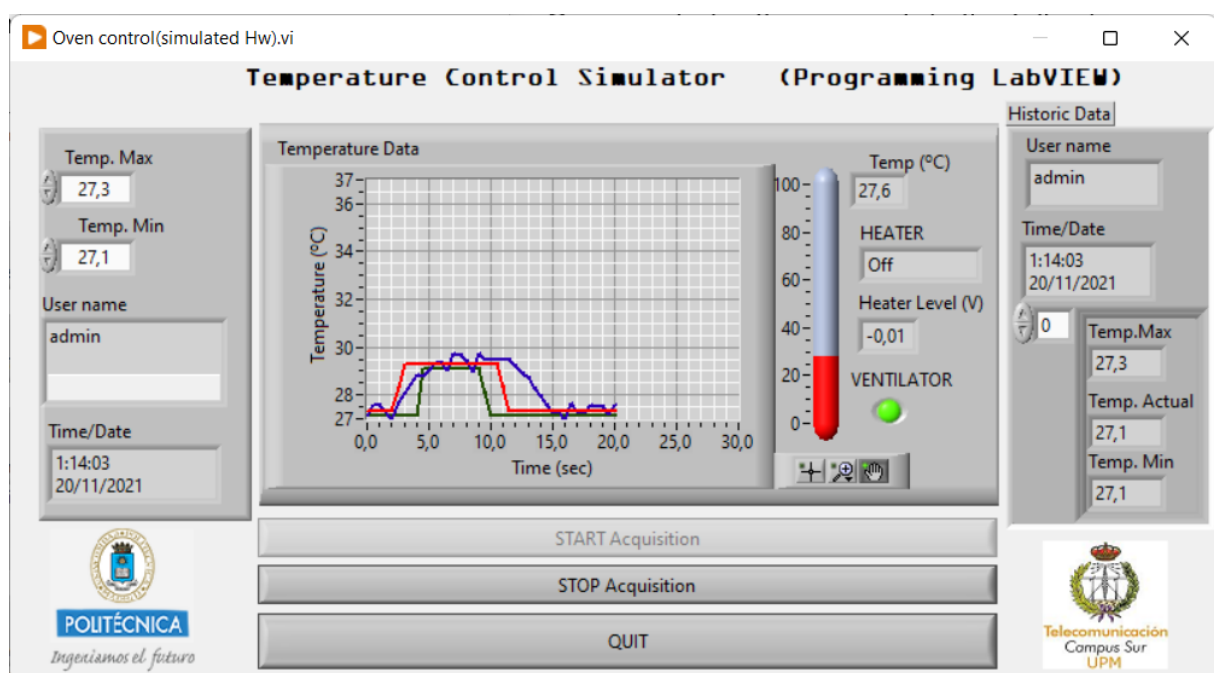

Figure 3: Monitor Window, Oven control
- The software will show a front panel similar (student is free to make changes) to the Figure 3.